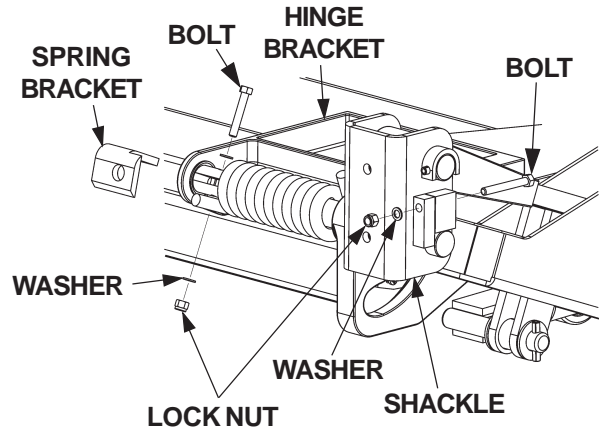
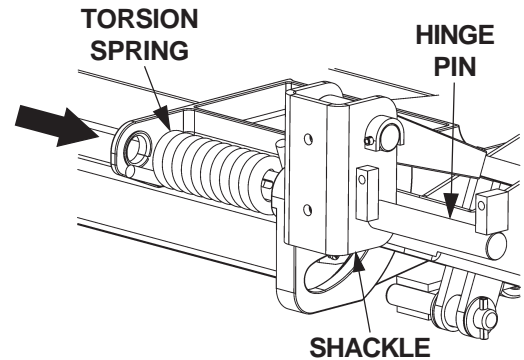
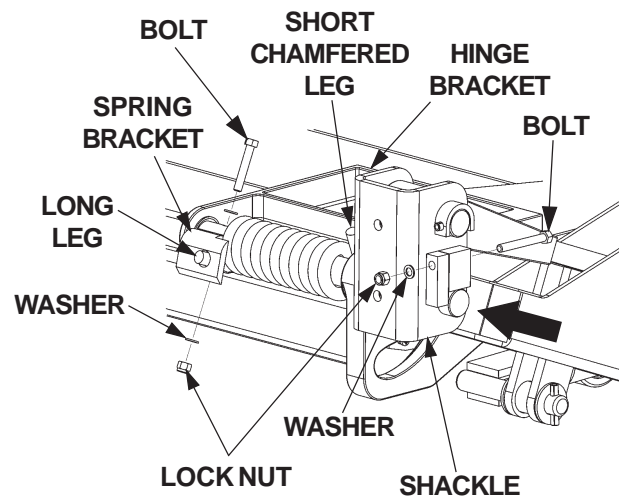

FIG. 19-1
FIG. 19-2
FIG. 19-3
4. Unbolt Hinge Pin from Shackle and Spring Bracket (**FIG. 19-1**). Remove bolts, washers, and lock nuts. Drive the Hinge Pin outboard toward the Shackle just enough to free the torsion spring (**FIG. 19-2**). Remove the Torsion Spring.
5. Install the Torsion Spring as shown in **FIG. 19-3**. Make sure the long leg of the spring is inserted in the Spring Bracket (**FIG. 19-3**). Make sure the short end of the spring is visible and resting against the Hinge Bracket (**FIG. 19-3**).
6. Drive the Hinge Pin into correct position through the Hinge Bracket as shown in **FIG. 19-3**. Line up the bolt hole in the Hinge Pin with the hole in the Shackle and Spring Bracket. Bolt the Hinge Pin to Hinge Bracket and Spring Bracket with bolts, washers, lock nuts (**FIG. 19-2**). Torque the 3/8"-16 Spring Pin bolt and 3/8"-16 Spring Bracket bolt **35 to 52 LBS.-FT.**